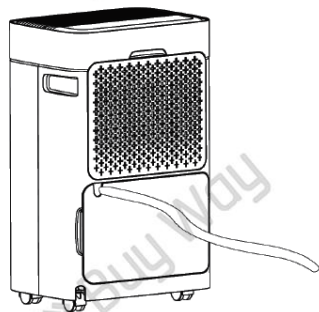

Fig.2
4. Finally, reinstall the water tank (fig.2). Be sure to run the water pipe downwards and to let the water flow out smoothly. Do not kink or bend the pipe.